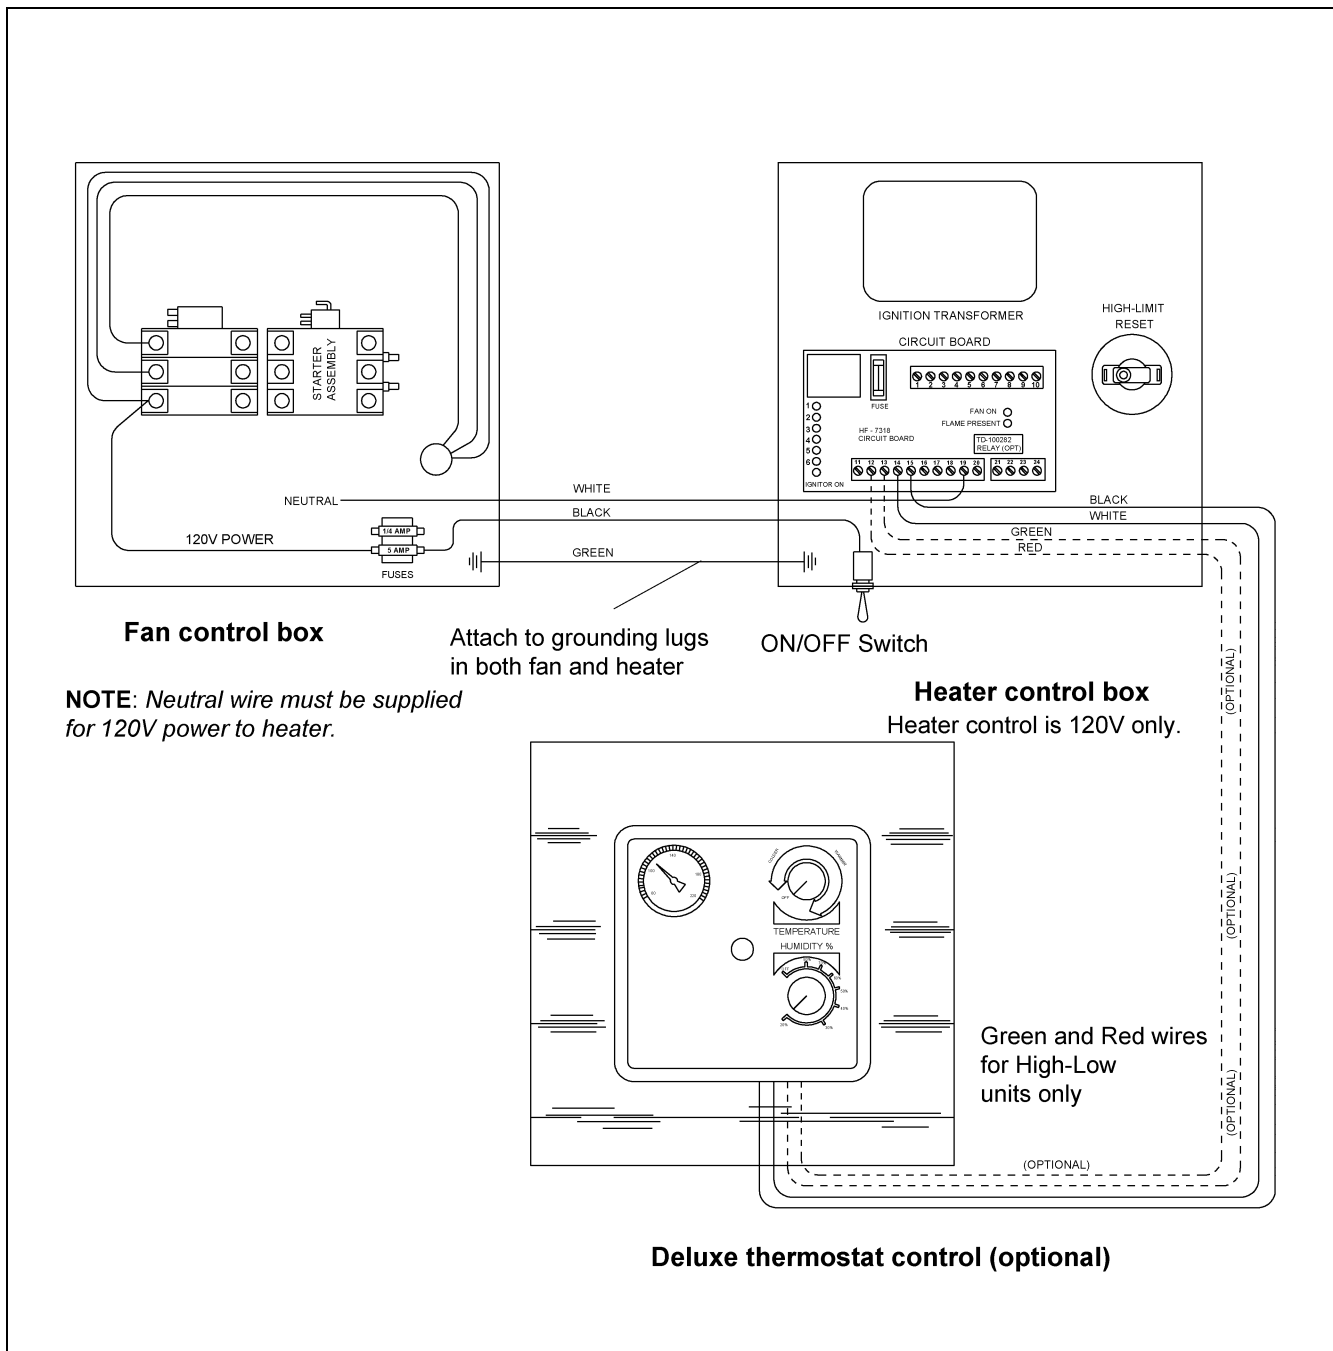

Figure 6B 230 Volt Fan Control Box
2. Make field connections of wires in fan box as *shown in Figure 6B*.
3. Connect deluxe thermostat control (optional) in heater box as *shown in Figure 6B*.
3. Connect deluxe thermostat control (optional) in heater box as *shown in Figure 6B on Page 17*.